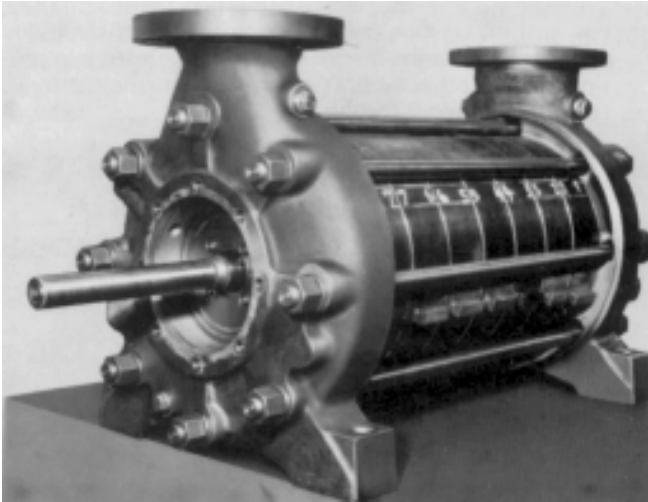

Fig. 36 Identification of casing components and removal of tie rods.
1. The stage casings (108) should be numbered consecutively in respect of their positions in relation to one another before dismantling, to ensure that the suction casing (106), the stage casing (108) and the discharge casing (107) are all reassembled in the correct sequence and orientation in relation to one another during reassembly. (see Fig. 36)